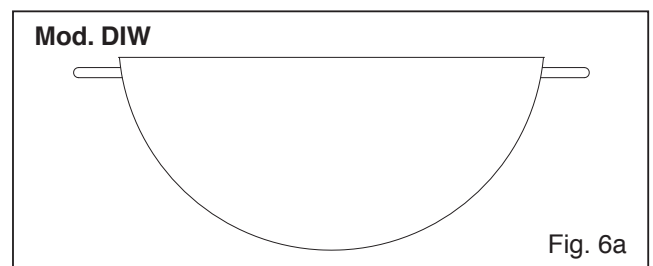

Fig. 6a
- containers made of glass, ceramic, terracotta, aluminium, copper or non-magnetic stainless steel (austenitic) are not recommended and are unsuitable. The pan to use with the wok induction model must be semi spherical (see fig. 6a).